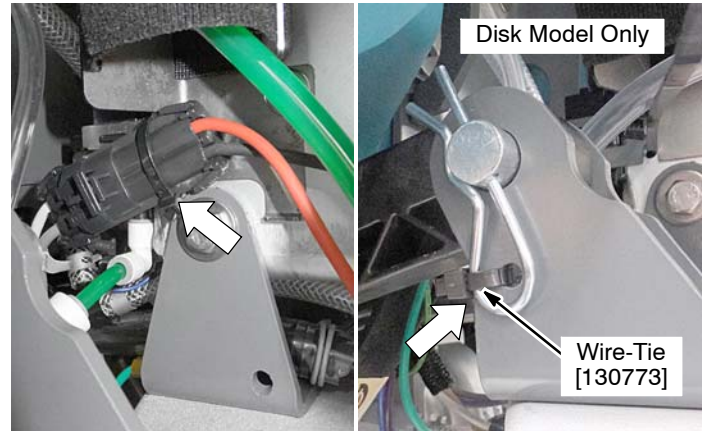

Fig. 55
5. Secure the two brush motor connectors with the pre-installed wire-ties as shown. Disk Model: Secure the swing arm connector pins with wire-ties as shown (Figure 55)